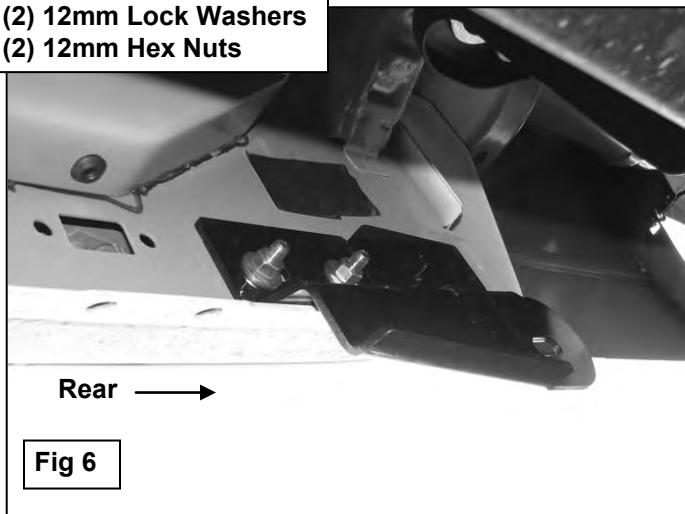

Fig 6
7. Select the passenger side Rear Mounting Bracket. Attach the Bracket to the Double Bolt Plate with (2) 12mm Flat Washers, (2) 12mm Lock Washers and (2) 12mm Hex Nuts, (**Figure 6**). Snug all hardware but do not tighten at this time.
8. Carefully unpack and select the passenger Sidebar. Position the Sidebar up to the Mounting Brackets and attach using the included (2) 1/2" x 2" Hex Bolts, (2) 1/2" Lock Washers, and (2) 1/2" Flat Washers. Snug but do not tighten at this time.